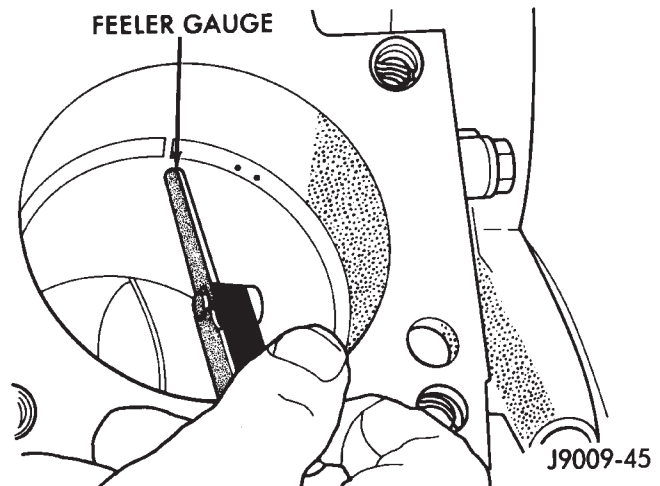

Fig. 12 Ring Gap Measurement
(4) Place ring in the cylinder bore and push down with inverted piston to position near lower end of the ring travel. Measure ring gap with a feeler gauge fitting snugly between ring ends (Fig. 12). The correct compression ring end gap is 0.25-0.51 mm (0.010-0.020 inch). The correct oil control ring end gap is 0.381-1.397 mm (0.015-0.055 inch).
(5) Install the oil control rings according to instructions in the package. It is not necessary to use a